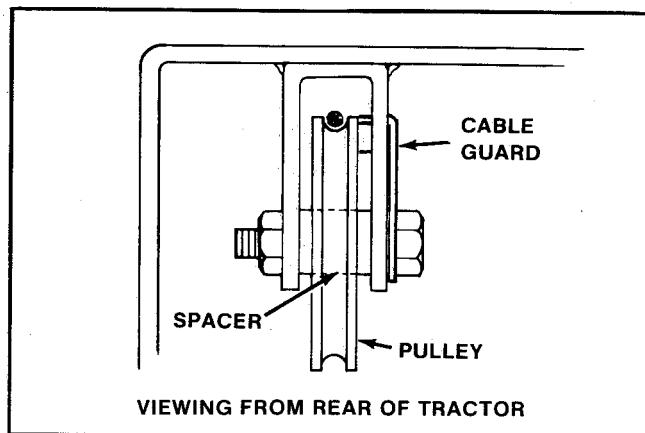

Figure 3
- Use this step if tractor is not equipped with 38" rotary tiller. With cable over the top of the pulley, attach the spacer, cable guard and pulley to the u-shaped bracket with the capscrew and locknut as shown in figure 3. Note that the cable guard is on outside of u-shaped bracket. The u-shaped bracket is located underneath the frame above the lift lever assembly.
Locate the leg of the guard over the cable, so that the cable does not ride against the cable guard (figure 3). Tighten the capscrew and locknut.